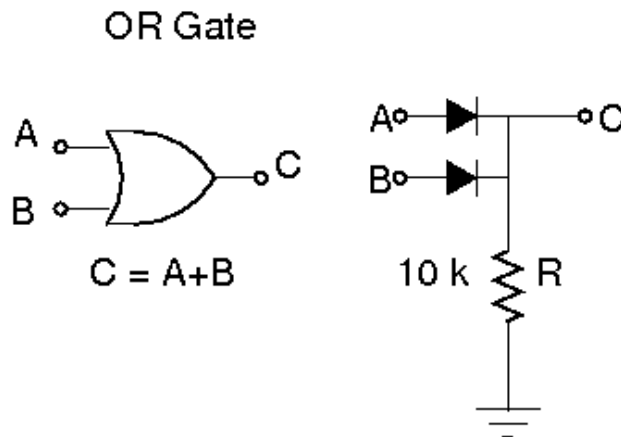

Fig. 1. Diode OR gate symbol and Discrete diode implementation
Consider the diode as a simple switch. It is closed (ON) when the voltage on the anode or p-side is higher than that on the cathode or n-side. Current flows in the direction of the arrow in the diode's circuit-diagram symbol. The logic symbol of an OR gate and its discrete diode implementation are shown in Fig. 1. In an OR gate, the output is '1' (high) if either of the inputs are '1'. If either of the inputs has a high voltage, its diode will conduct and current will flow to the output. A high voltage will appear across the resistor, equal to the input voltage minus a voltage drop across the silicon diode. If both of the inputs are '0' (low), then neither of the diodes will conduct and the gate's output voltage will be zero.